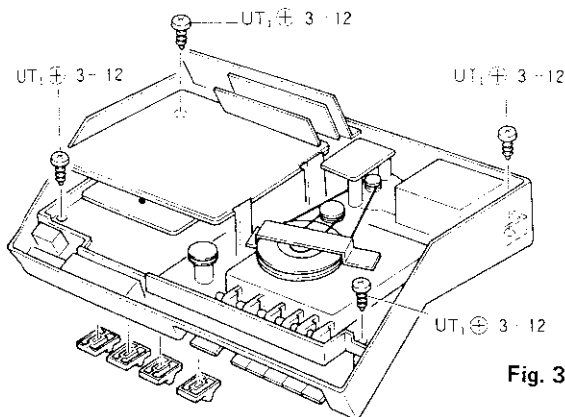

Fig. 3
- 2) Remove 4 screws. (Refer to Fig. 3)